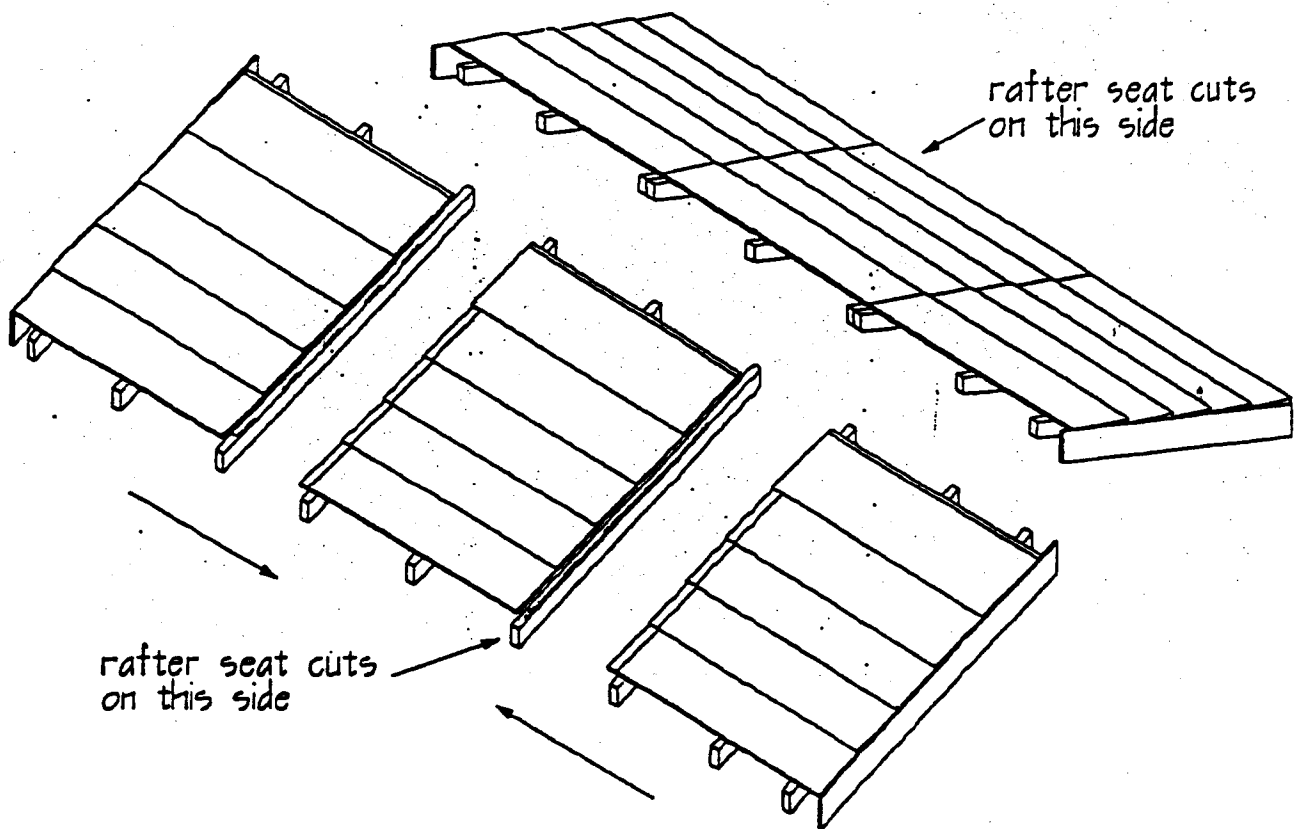

FIGURE D3
3. Lay out the roof components, making sure the fascia boards are facing outwards on each roof section. Fasten the three roof sections together where the rafters join, shown in Figure D3.